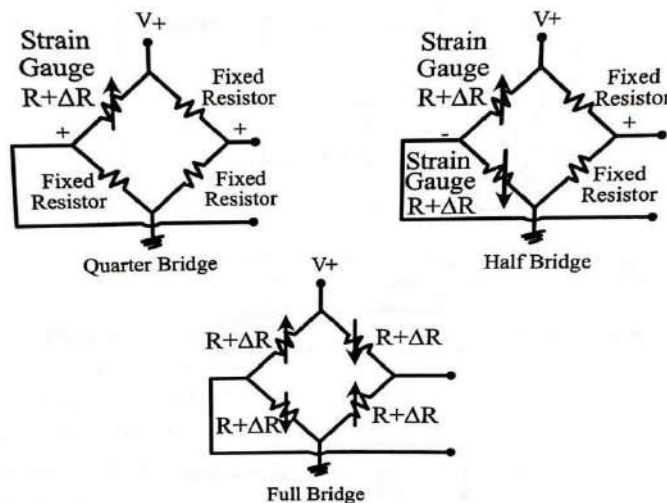

Figure 7.2(b): Bridge Configurations
- ❖ The low and mid range sensors have larger diaphragms and larger pressure diameter ports. The sensor housing is generally made from stainless steel and the entire assembly is welded together to give a strong, medium resistant sensor as shown in figure 7.2(a).